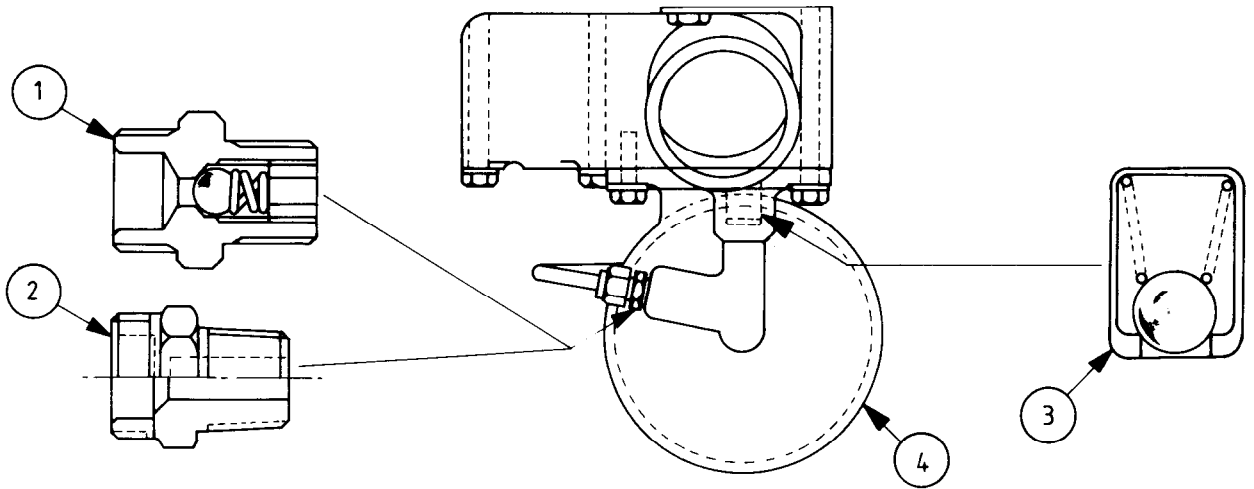

FIG 1 - COOLANT CONDITIONER COMPONENTS
- a. Disconnect the inlet line from the coolant conditioner and remove the inlet check valve item 1, Fig 1.
- e. Replace the coolant conditioner inlet check valve with the connector item 2, Fig 1.